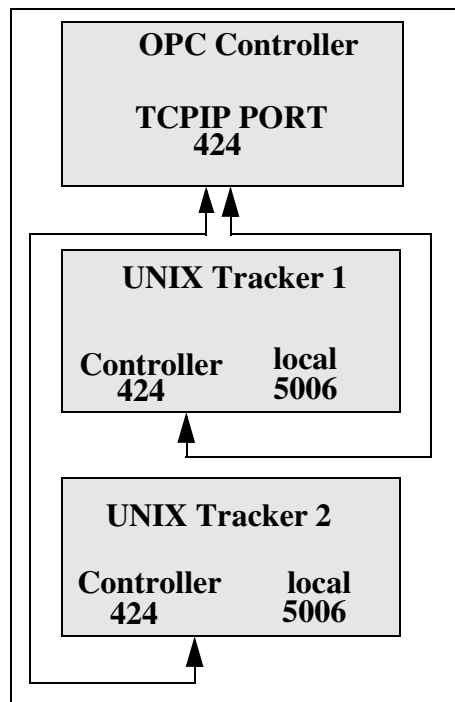

Figure 195. Ports
- The tracker's local port, which must be unique for each machine. Tracker Agents on different machines can have the same local port number. See Figure 195 on page 283.